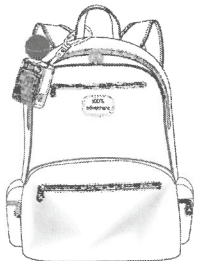
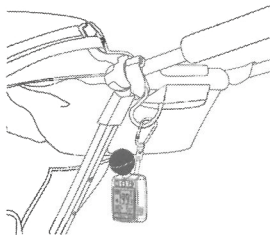
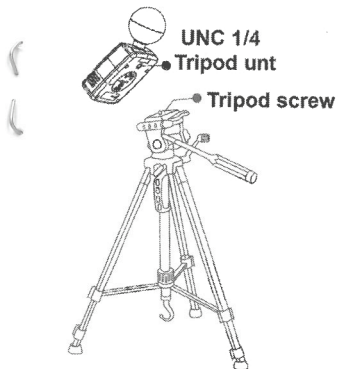

Fig. 5 Hanging on the backpack
Fig. 6 Hanging on the baby stroller
Fig. 7 Tripod application
- Alternatively, hang it on the backpack (Fig. 5), or hang it on the baby stroller's handle (Fig. 6)
The tripod mount on the back of the meter is available to any type of tripod (Fig. 6). A bike can also be mounted by a clamp (Fig. 7) for the outdoor measurement of the heat index.